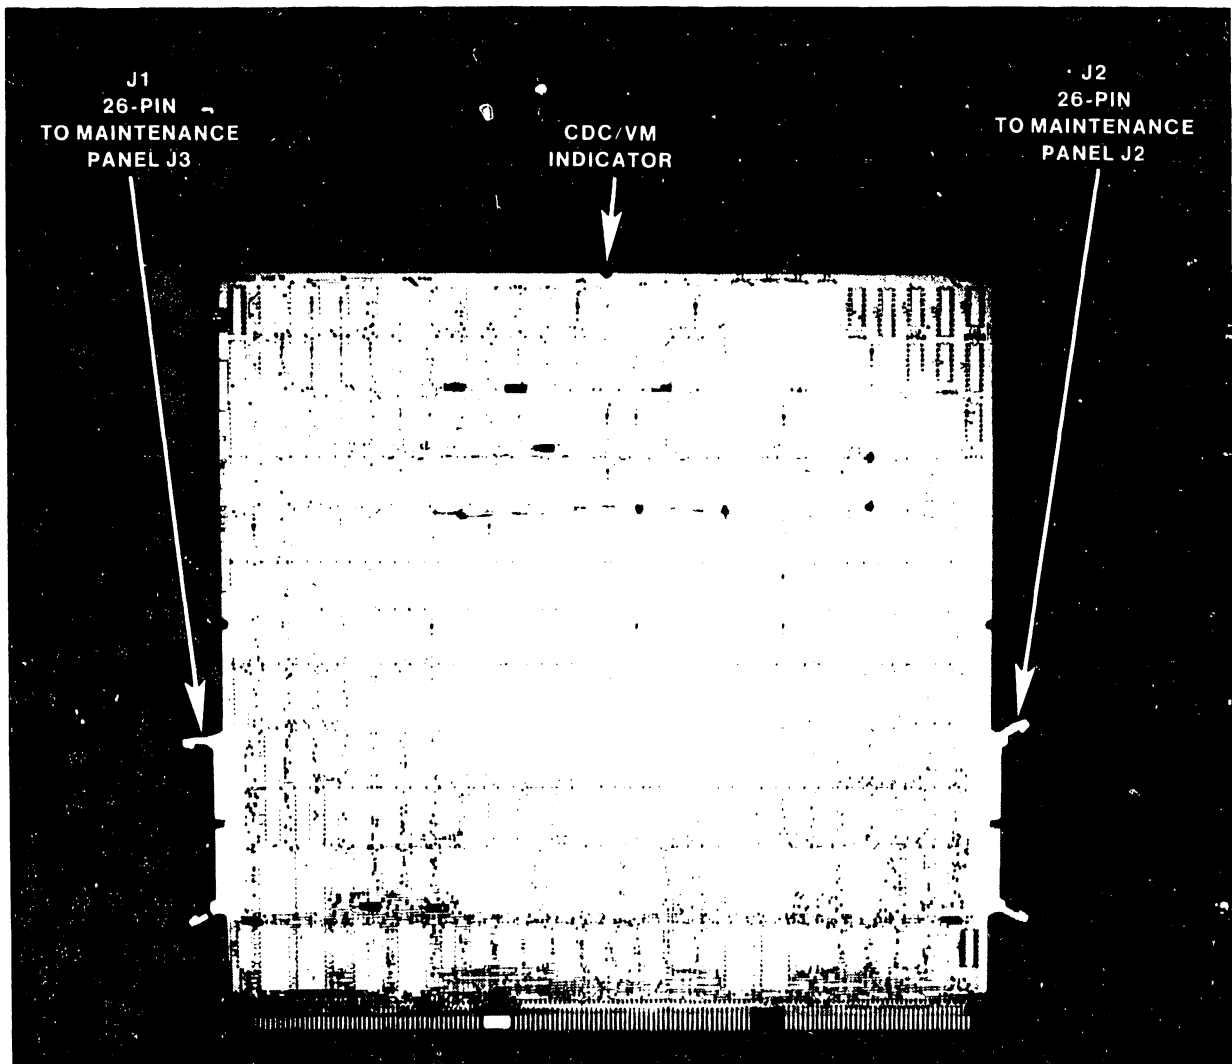

Figure L2-1 "B" Bus Board
4. Insert the new "B" Bus Board (Ref. Fig. L2-1) into slot 3.
Verify also that when running CDC/VM, the CDC/VM indicator on the "B" Bus board (see Fig. L2-1) is pulsating off and on. This light indicates memory address translation activity. The light is on when address translation is not in use. Thus, under normal virtual machine operating conditions, the light will never remain continuously on or off.